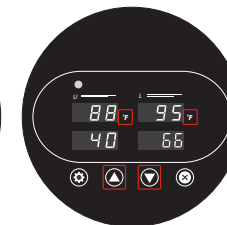

Fig. 8
8. Press Up **11** or Down **12** buttons to select either °F or °C (Fig. 8) OR skip this step if you are satisfied with the current selection.